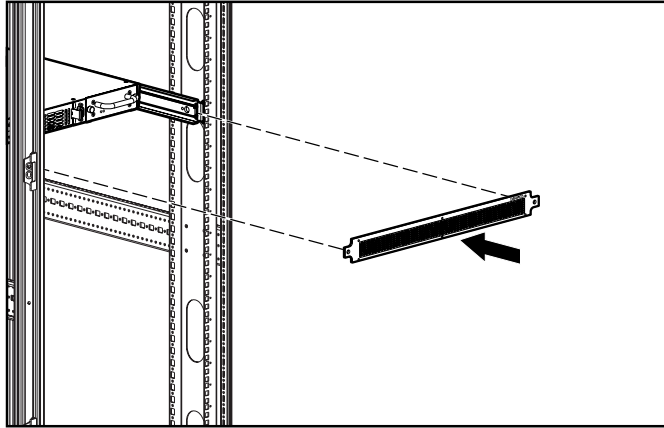

Figure 18: Attaching the bezel to the rack
7. Attach the bezel blank to the front-side of the rack (see Figure 18).